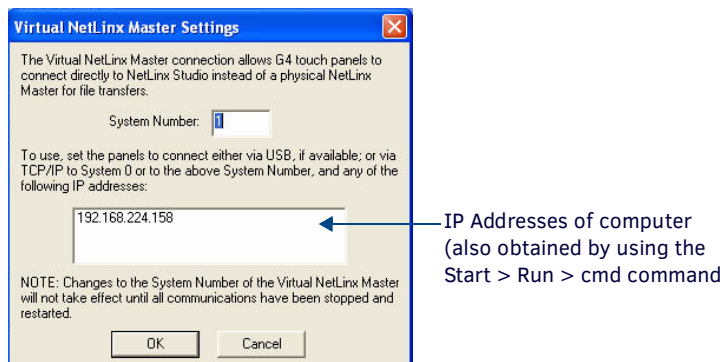

FIG. 40 Virtual NetLinx Master Settings dialog
6. Click the **Edit Settings** button in the *Communications Settings* dialog to open the *Virtual NetLinx Master Settings* dialog (FIG. 40).